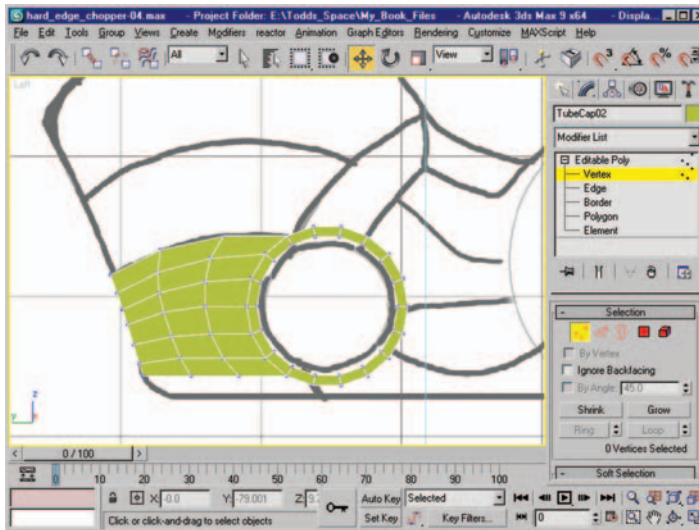

Figure 8.5 Mesh flow after moving vertices to match blueprint.
6. Using the Move tool and toggling transparency, move some of the new vertices so they conform to the shape in the underlying blueprint. Figure 8.5 shows the resulting mesh after moving vertices.